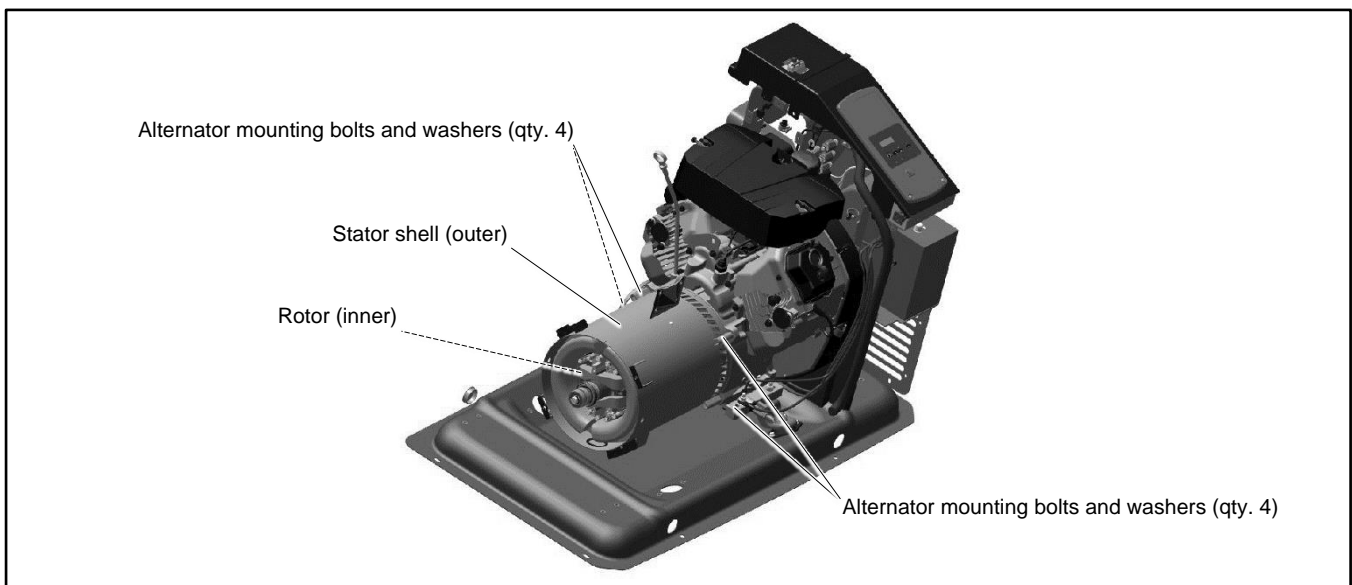

Figure 126 Alternator Mounting Bolts
30. Remove the four mounting bolts and washers that secure the alternator to the engine. See Figure 126.
32. Carefully pull the stator from the rotor. See Figure 126.